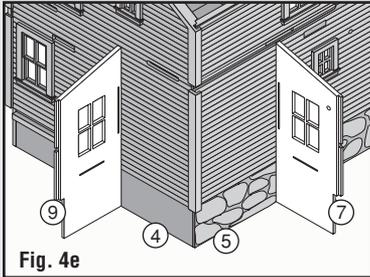

Fig. 4e
- Insert tabs on Back Door (7) into notches on Back Wall (5). Insert tabs on Porch Door (9) into notches on Right Wall (4). (Fig. 4e) Apply glue on inside tabs.